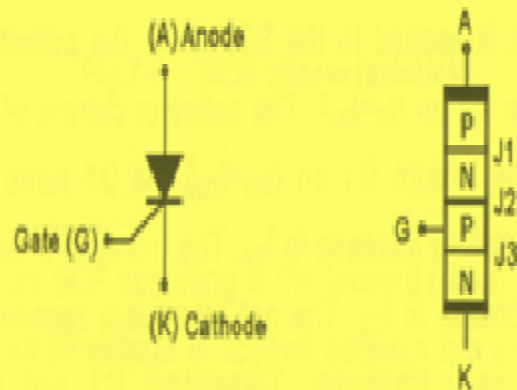
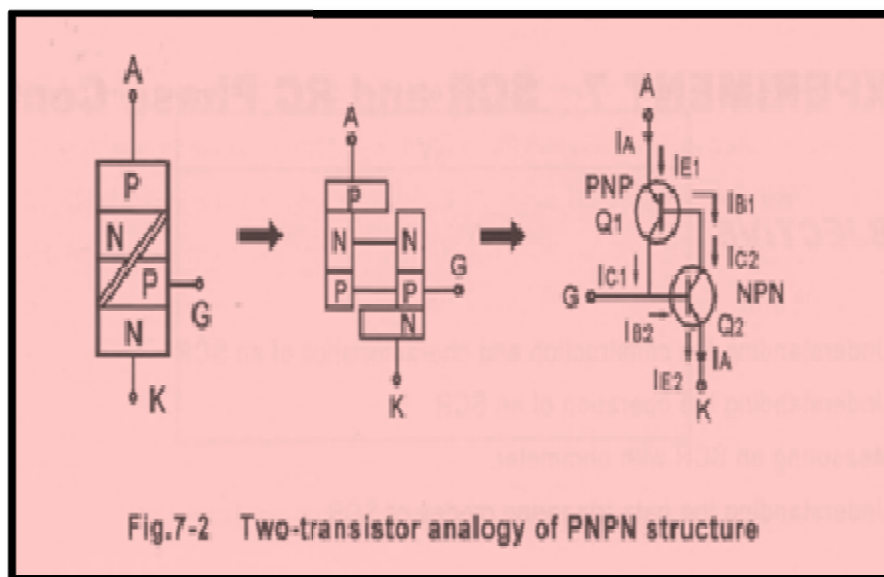

Fig.7-1 SCR. (a) circuit symbol, (b) PNPN structure.
Fig.7-2 Two-transistor analogy of PNPN structure
The SCR is a PNPN four-layer semiconductor device having three terminals: anode (A), cathode (K), and gate (G). The symbol and construction for an SCR are shown in Fig. 7-1. In most control applications, the control signal is applied between the gate and the cathode while the load is connected to either the anode or the cathode in series. The circuit symbol of the SCR is illustrated in Fig. 7-1(a). The direction of arrow refers the direction of anode current.
The PNPN four-layer structure for the SCR, shown in Fig. 7-1(b), can be considered as PNP and NPN transistors connected as the manner of Fig. 7-2. We will discuss the operation of an SCR by referring to this equivalent two-transistor circuit.